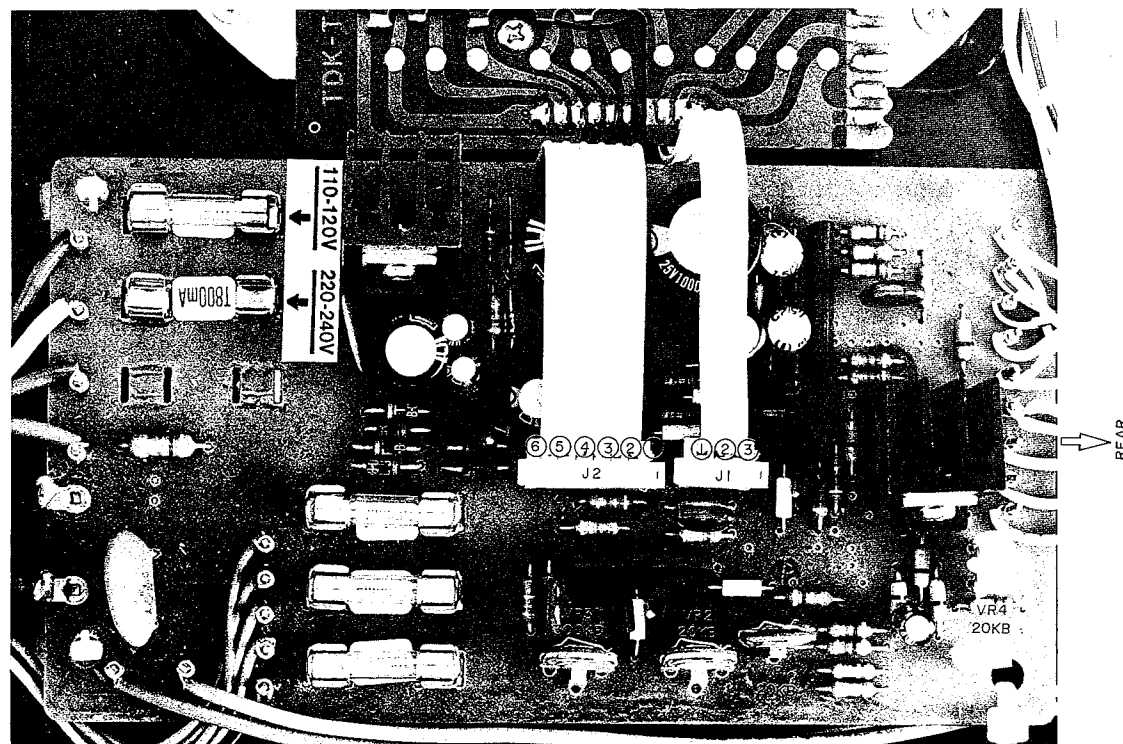

Fig. 33 Motor Driver P.C Board
3. Off-set Voltage Adjustment and Torque Difference Adjustment (Refer to Fig. 33)